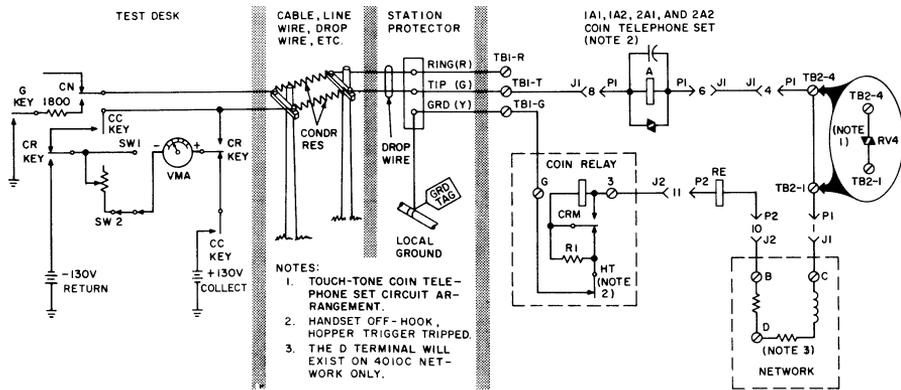

Fig. 1—Coin Relay Current Flow Test—1A/2A-Type (Coin-First)
1. This test must be conducted with a craftsperson at the coin station. Use Fig. 1, 2, and 3.